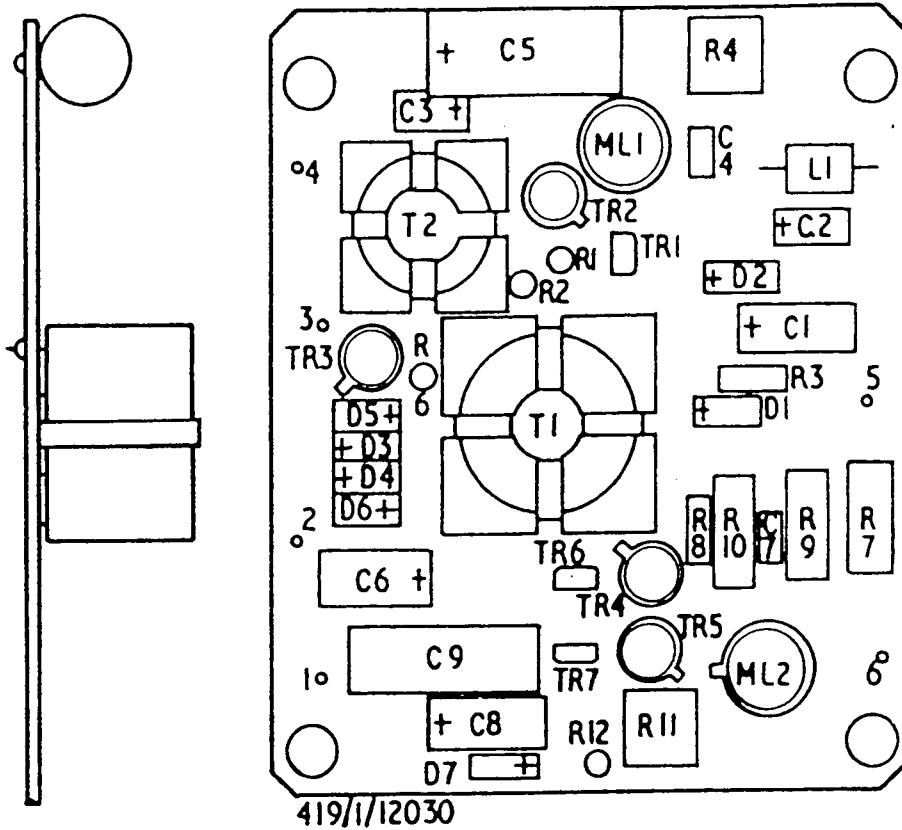

Fig. 4 Panel, electronic circuit, (unit 5b) - component layout
20. The principal component parts of the Panel, electronic circuit 419/1/12030 (Unit 5b) (see fig.4) are: